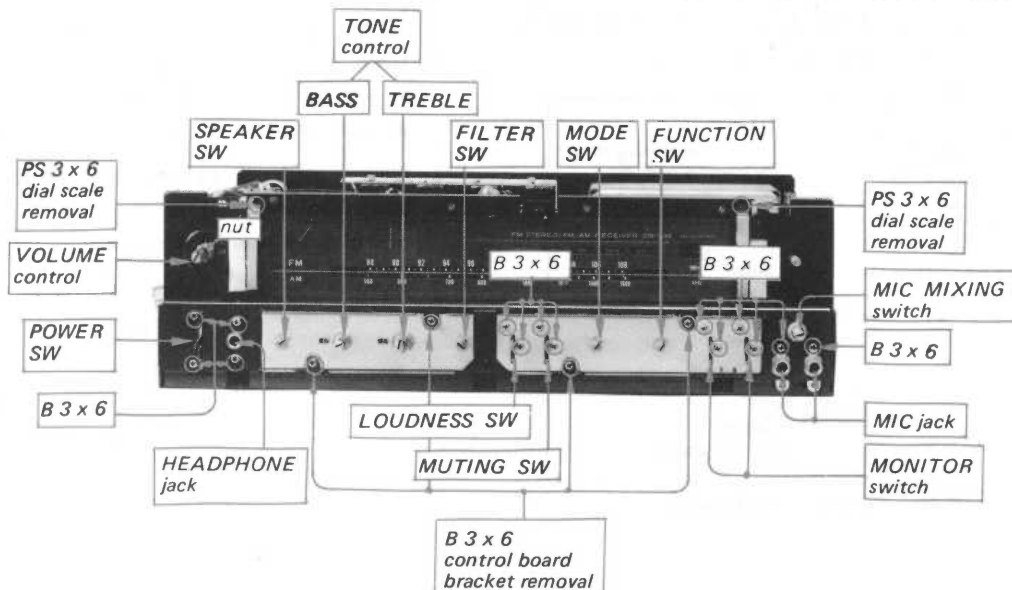

Fig. 2-10. Control, jack and switch replacement (1)
4. Remove the nut securing the VOLUME control to the front subchassis shown in Fig. 2-10.
1. Remove two screws or the nut securing the defective switch or jack to front subchassis as shown in Fig. 2-10.
1. Remove the four screws (B 3 x 6) securing the control board bracket to the front subchassis as shown in Fig. 2-10.
3. Remove the nut securing the defective control or two screws (B 3 x 6) securing the defective switch to the control board bracket as shown in Fig. 2-10.